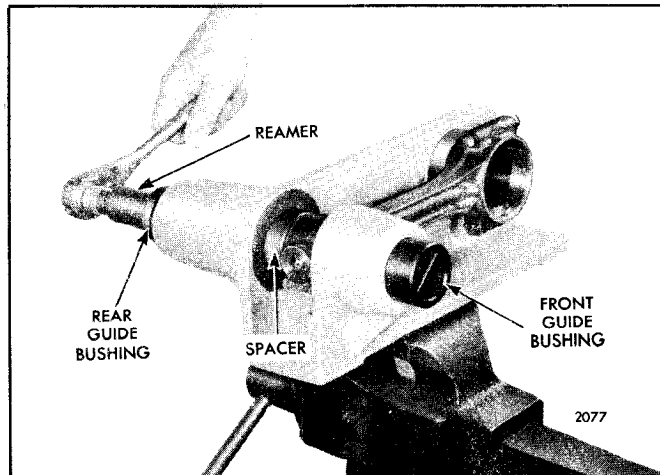

Fig. 7 - Reaming Bushings
- c. Place the crankshaft end of the connecting rod on the arbor of the fixture (Fig. 7). Tighten the nuts on the 3/8"-24 bolts